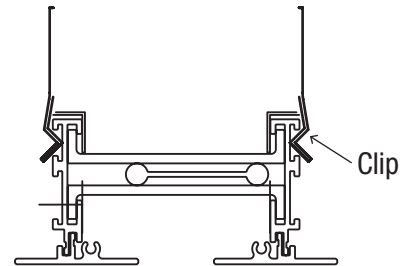

Figure 7 (Step 4A):
- A. The Greenheck model XG-UP (uninsulated) or XG-UP(I) (insulated) can be used with the XG-AFL linear slot diffuser. A plenum can also be fabricated in the field. If the plenum is the XG-UP(I), there will be clips on the plenum that attach to the XG-AFL linear slot diffuser (see Figure 7).